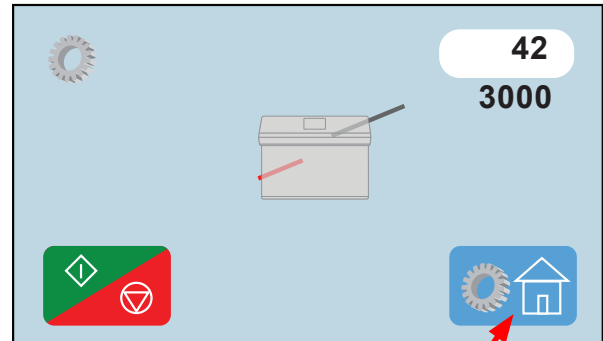

Fig. 61
2. Press the Start/Stop icon  the fold stop will move to the highest position and a number will appear in the white box (Fig. 61). Press the Start/Stop icon again to move the fold stop to the lowest position. A new number will appear in the white box for the lower position. Run the test a couple more times if the numbers remain within 1 to 2 of the original numbers the fold table is working properly.